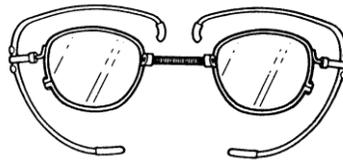

Figure 2
- (1) M1 canteen cap
- (2) M291 decontaminating kit.
- (3) Optical inserts (See fig. 2)